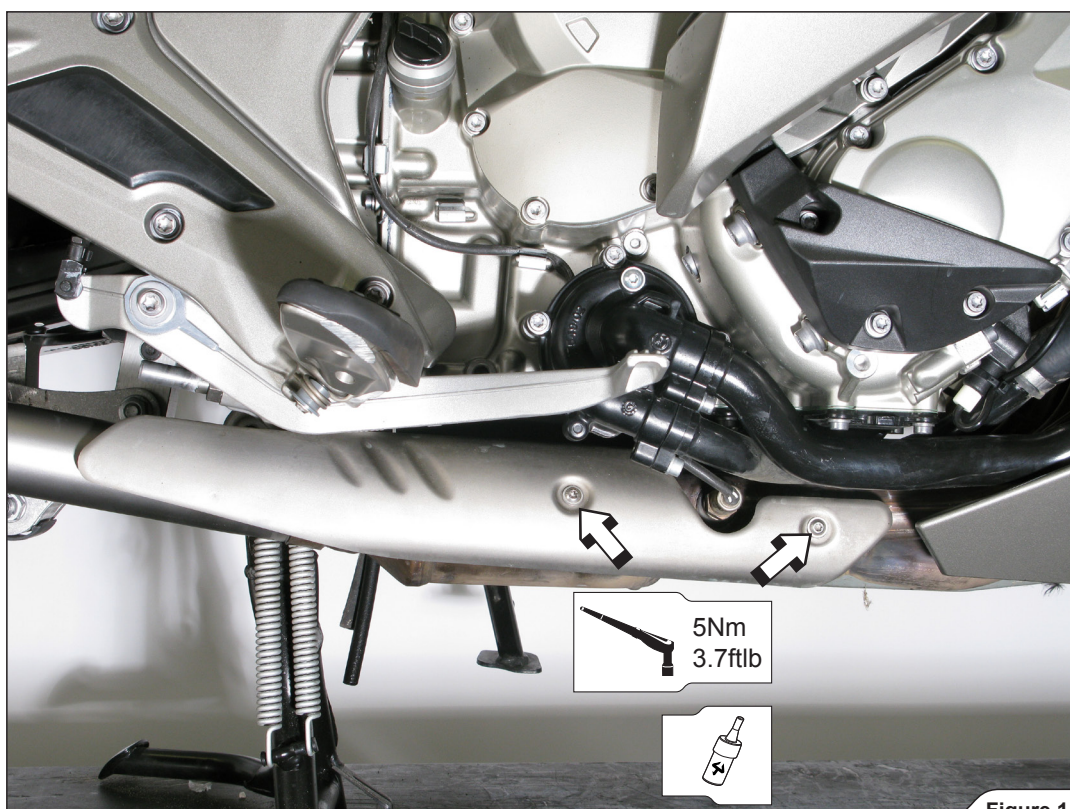

Figure 14
6. Reinstall both original heat shields (Figure 14, 15).